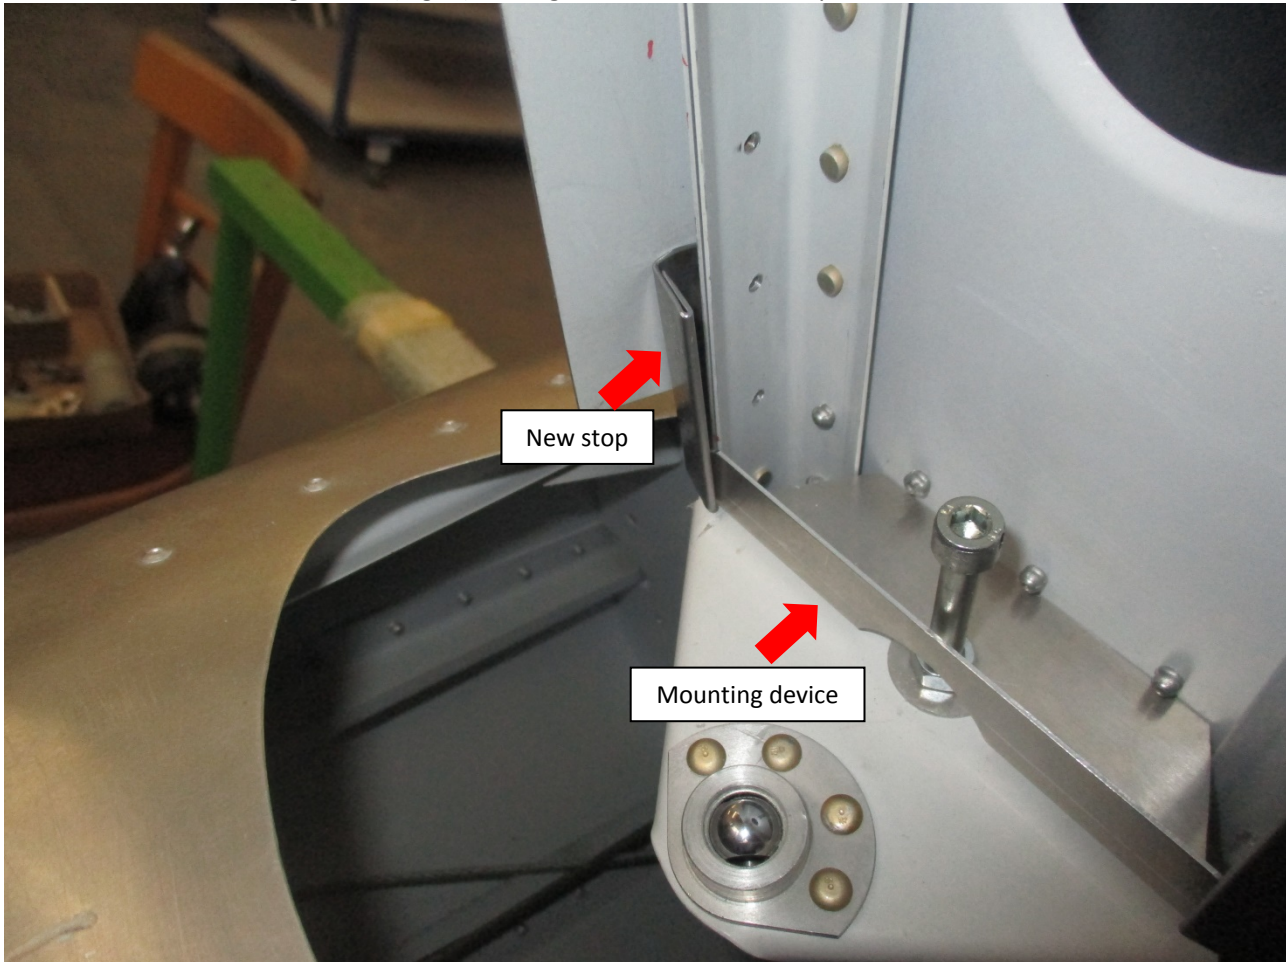

Fig. 2: Mounting device
7. Install the mounting device (Fig. 2) for alignment of the new stops CF0262LP.